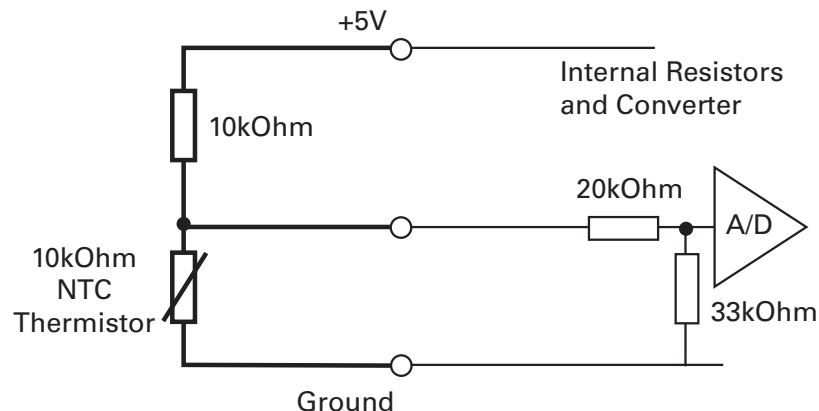

FIGURE 3-11. NTC Thermistor wiring diagram
- Connect the sensor with a pull-up resistor (value 10kOhm) to the 5Volt supply, as shown in FIGURE 3-11.